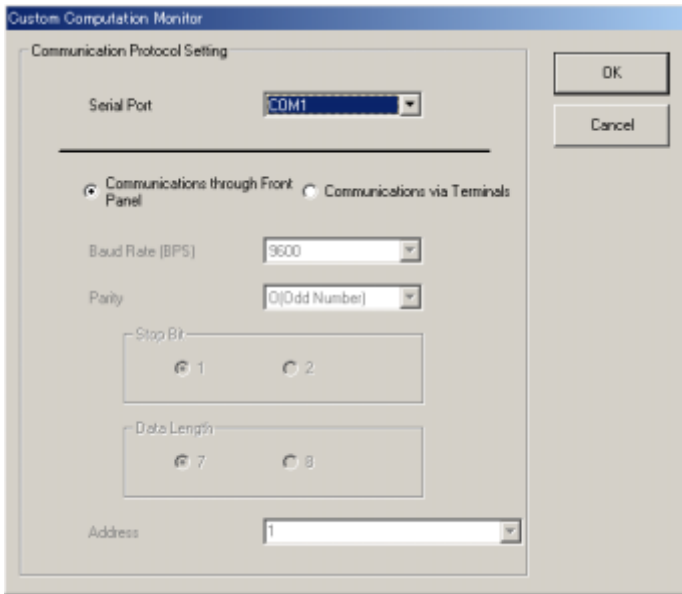

Figure 11.2.1 [Communication Protocol Setting] Dialog Box
- (1) From the tool menus, click <Communication>, then <Custom Computation Monitor>, then <Input Block>. The [Communications Protocol Setting] dialog box (Figure 11.2.1) appears.